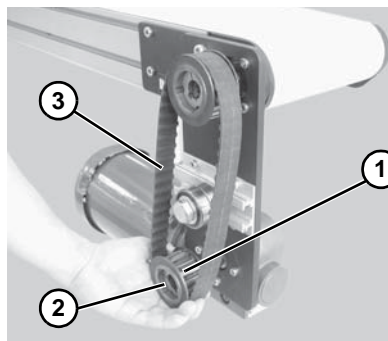

Figure 19
*If drive pulley (**Figure 19, item 1**) is replaced, wrap timing belt around drive pulley and complete step 3.*
4. Remove pulley (**Figure 19, item 1**), taper hub assembly (**Figure 19, item 2**), and timing belt (**Figure 19, item 3**).
Drive pulley (Figure 19, item 1) is removed. Wrap timing belt around drive pulley and complete step 15.